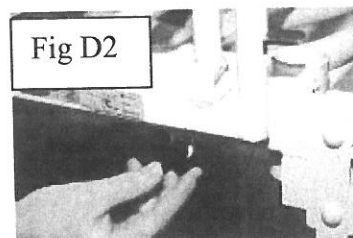

Fig D2
- Fit side rail onto frame using brackets provided locating it at the head end of the bed (brackets always facing inward toward bed) using thumb screw provided and tighten to secure making sure 250mm gap from side end to bed end. (Fig D2)